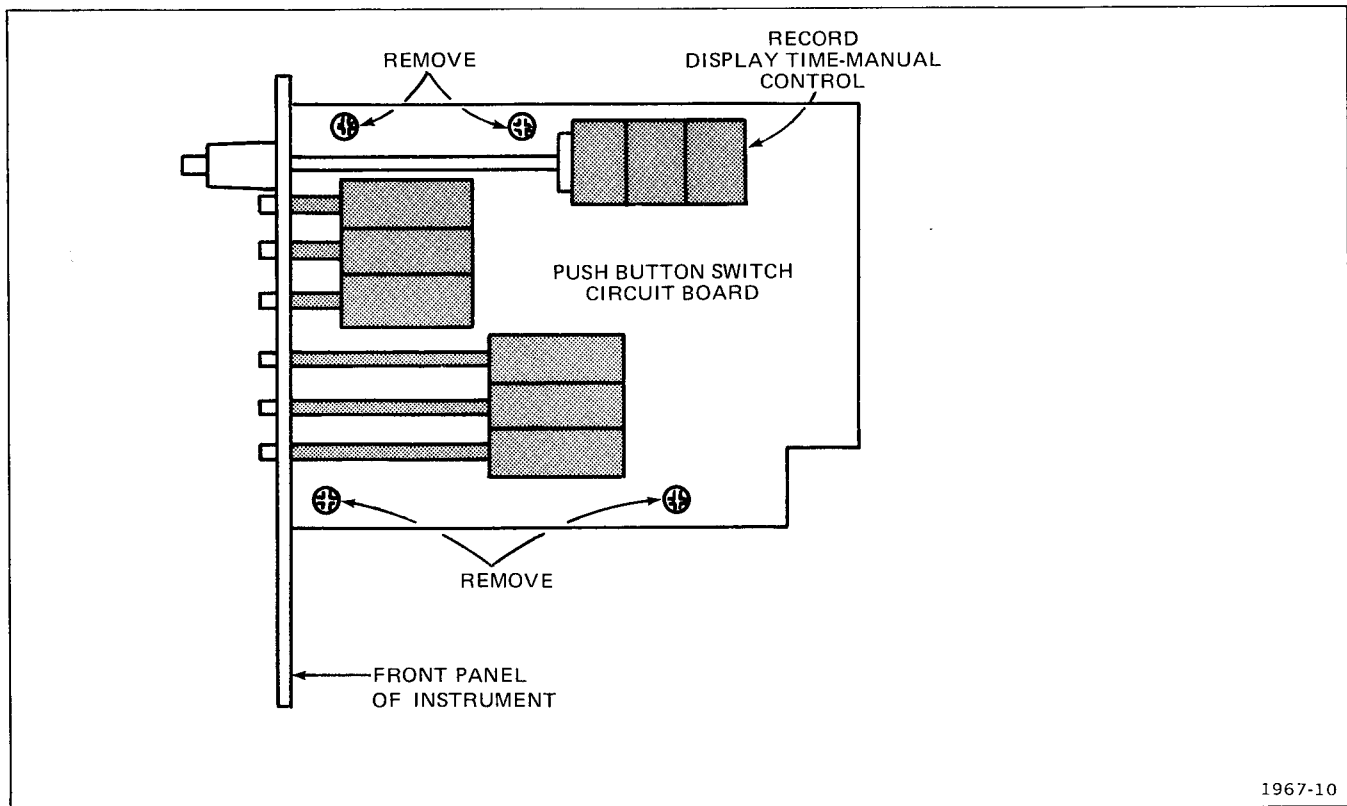

Figure 4-5. Locations of securing screws on the Push-Button Switch circuit board.
5. Remove 4 screws holding circuit board to square rails. See Figure 4-5.